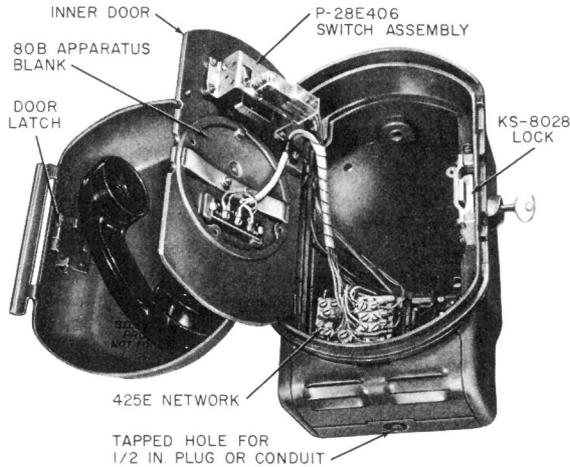

Fig. 1—525A (MD) Telephone Set (Manual), Inner Door Open
2.07 525 (MD)-Type Telephone Sets:
- Self-closing and self-locking outer door (Fig. 1 and 2). Lock can be removed if locking features is not desired.
- Inner door to seal off set components from customer (Fig. 1 and 2).